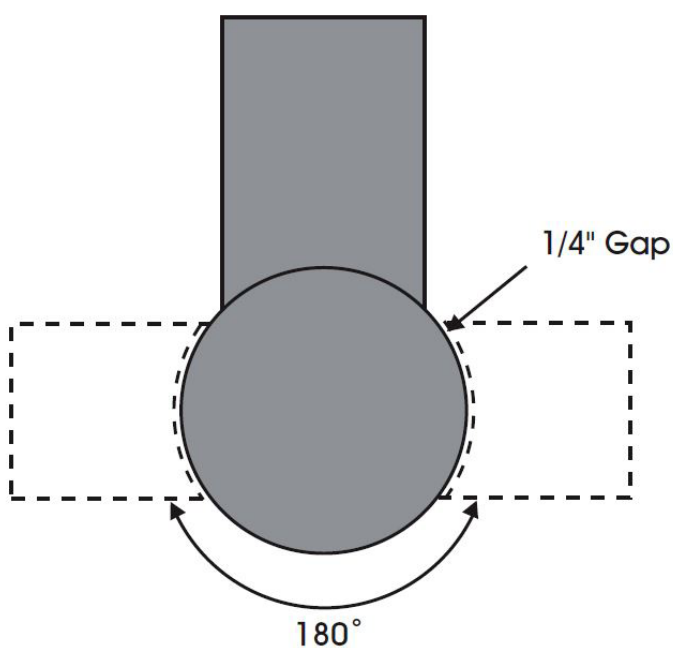

Figure 3
5. If the OPTIONAL ramp (Model no. 412410) is purchased: select a ramp position illustrated below. The ramp can be positioned anywhere in a 180° rotation around the front of the turntable. There should be a ¼" gap between the turntable and the ramp. The ramp should be fully supported by the floor. (See Figure 3)